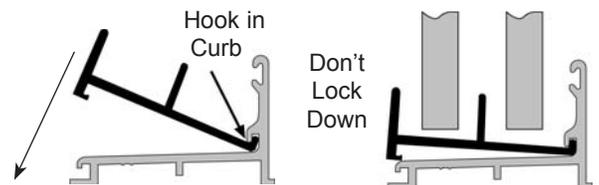
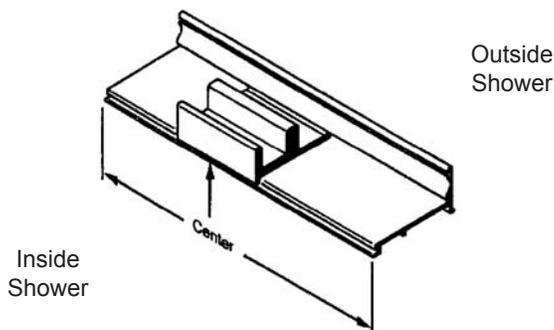

Figure 9B
Figure 10
- C. Slide both Door Panels (#5 and #6) to one side. Peel the paper backing off the two-way tape on the bottom of the Guide (#4). **Without letting the adhesive tape touch the Bottom Track/Curb (#2) OR accidentally pressing down or locking the Guide (#4) into place**, carefully insert the front edge of the Guide (#4) into the groove in the Bottom Track/Curb (#2) and slide the Guide (#4) under the two Door Panels (#5 and #6) as shown in Figure 9B. Center the Guide (#4) on the pencil mark you made (See Figure 10).